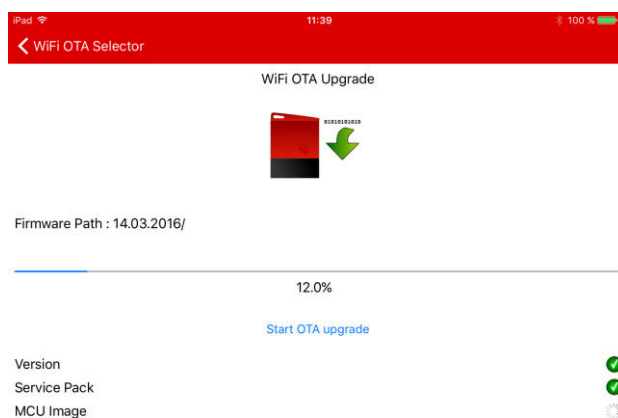

Figure 3-2. Wi-Fi® OTA Upgrade
0.98, the app will prompt you to upgrade the SensorTag to the latest version (see Figure 3-2). Follow the steps to upgrade the SensorTag.